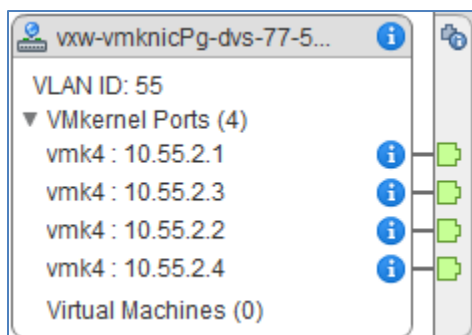

Figure 75 VXLAN VMkernel ports with VTEP IP addresses assigned
4. In the topology diagram, there is a new port group with the prefix **vxw-vmknicPg-dvs-**. It is on VLAN 55 and has one VMkernel port for each host in the cluster. Each port has an IP address from the VTEP pool for the cluster, as shown in Figure 75.